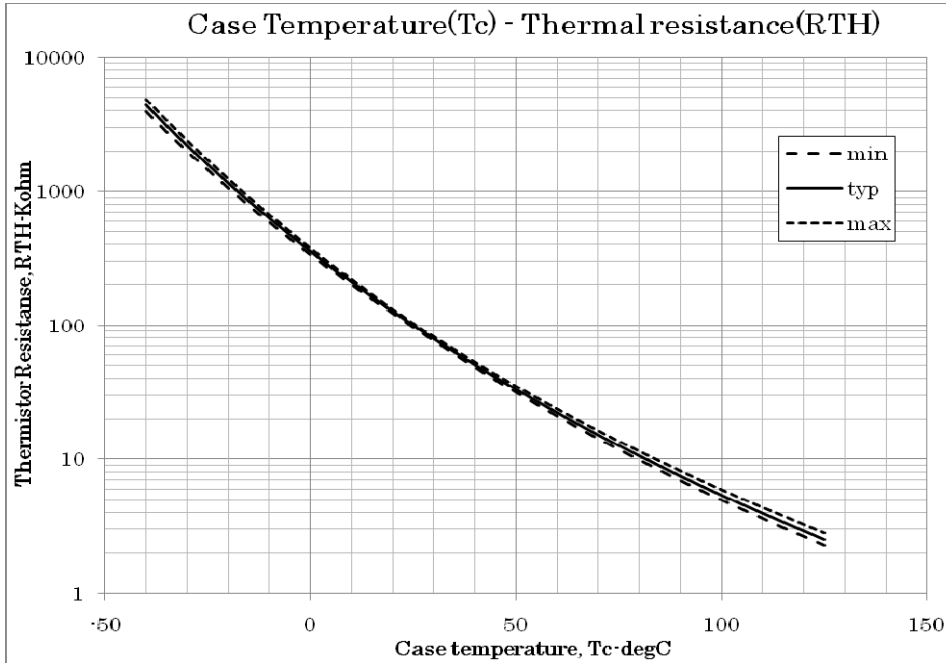
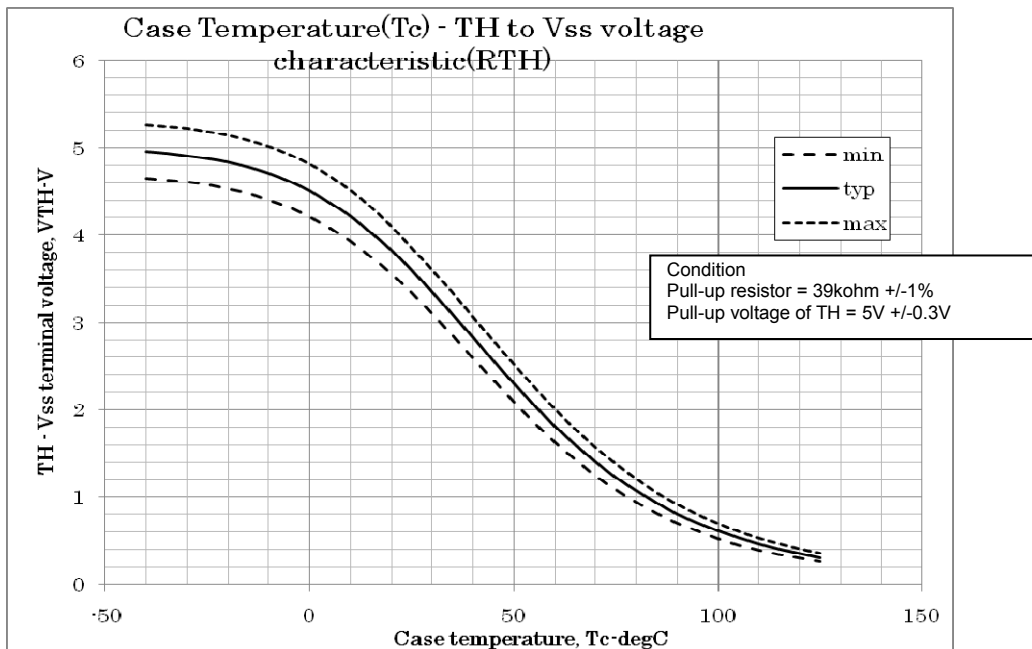

Fig.11 Variation of thermistor resistance with temperature
Fig.12 Variation of temperature sense voltage with thermistor temperature
4. Inside the H-IC, a thermistor used as the temperature monitor for internal substrate is connected between "TH1" and "TH2". Generally, one of terminals is connected to VSS, and the other is pulled up to external power supply with pull-up resistor (Rp) externally. The temperature monitor example application is as follows please refer the Fig.11 and Fig.12 below.